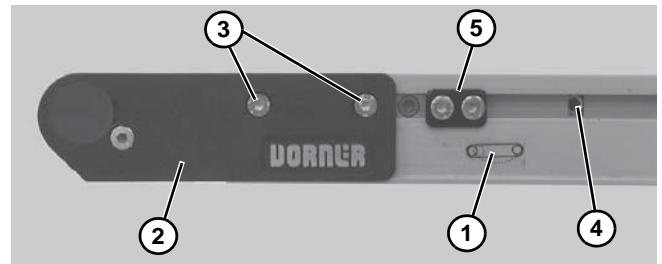

Figure 30
1. On tension end of the conveyor, identified with a label (Figure 30, item 1), adjust head plate assembly (Figure 30, item 2): On both sides of conveyor, loosen fastening screws (Figure 30, item 3) and rotate pinion gear (Figure 30, item 4) to adjust head plate assembly.